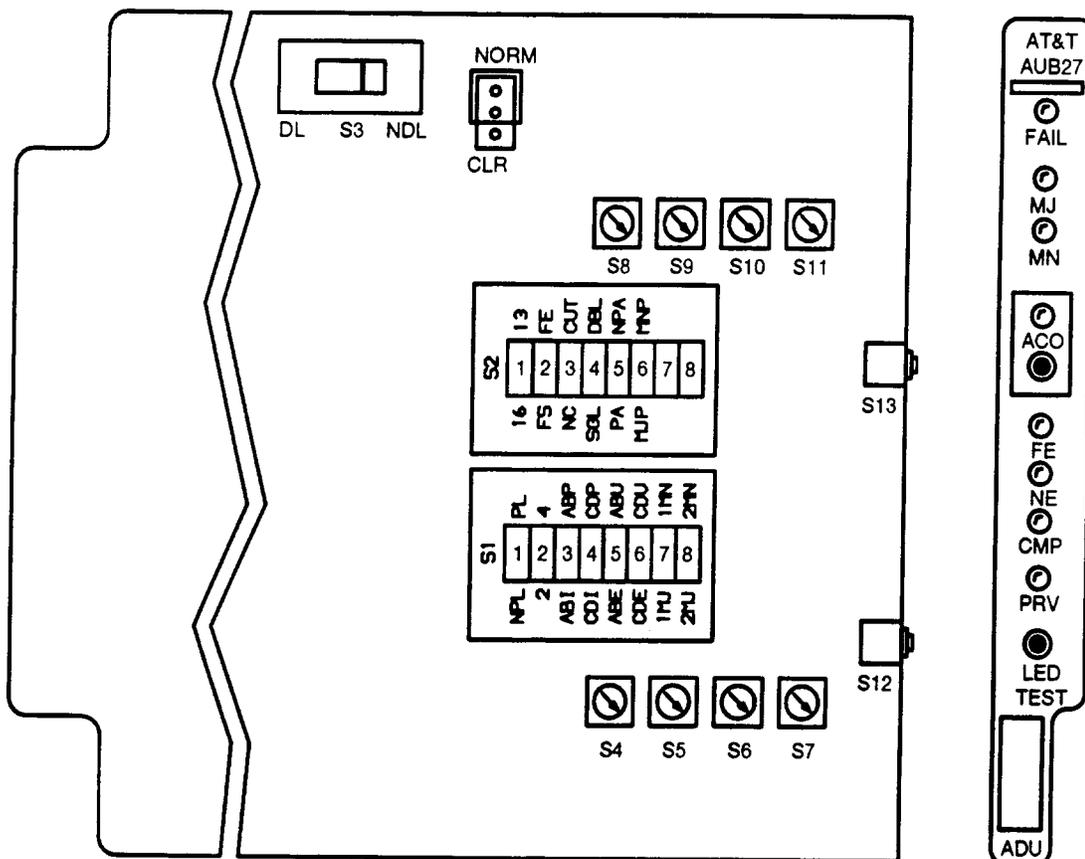

Figure 1 — AUB27 RT ADU Option Switch Settings
3. On **AUB27 ADU** option switch **S1** (Figure 1), use an orange stick (KS-6320, L1) or equivalent and set switch positions as follows:
4. On **AUB27 ADU** option switch **S2** (Figure 1), use an orange stick (KS-6320) or equivalent and set switches as follows: